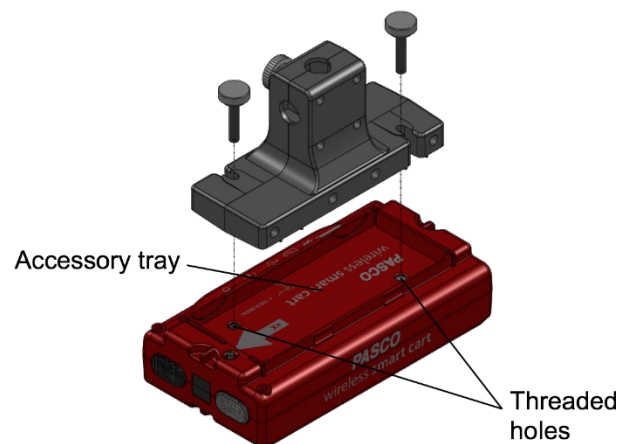

Figure 1. Place the adapter in the Smart Cart accessory tray.
2. Place the adapter in the accessory tray of the Smart Cart (Figure 1).
When using the Super Pulley with Clamp on a force table,* keep strings as close and parallel to the surface of the table as possible. See Figure 1..